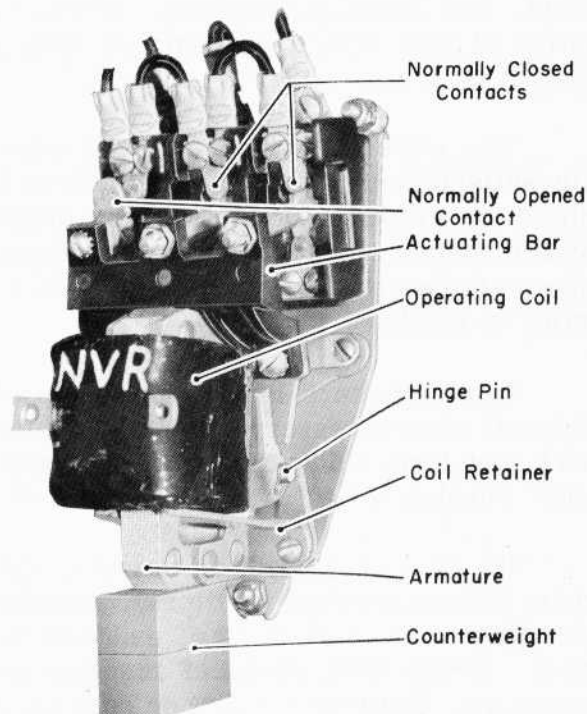

Fig. 1 - No Voltage (AC) Relay
Many locomotives are equipped with alternators to supply electrical power to drive such auxiliaries as traction motor blowers and engine cooling water fans. In the event that the alternator should fail, it is apparent that serious damage might occur due to these fans and blowers becoming inoperative. To prevent such occurrences, the No (AC) Voltage Relay, illustrated in Fig. 1, is used. It functions as a safety device and will initiate protective action at the instant of AC electrical power failure.